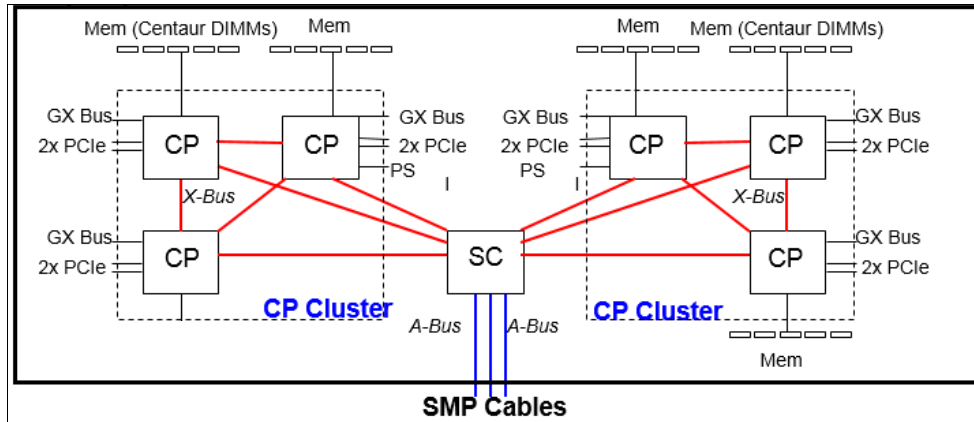

Figure 2-8 CPC drawer logical structure
Figure 2-8 shows the CPC drawer logical structure, component connections (including the CP SCMs), and the storage control (SC) SCMs.